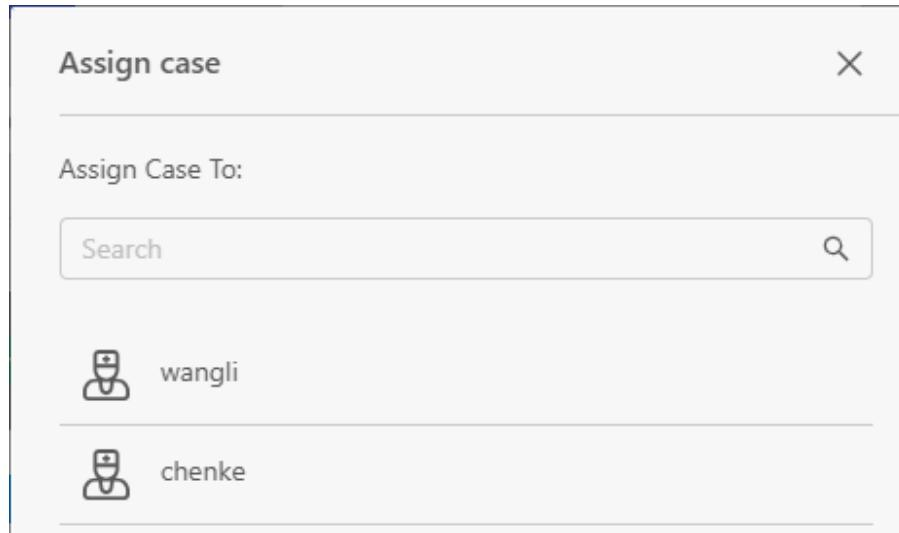

Figure 4-15 Assign Case Tab
- Assign: Assign the selected case to a specified user. This opens the assign case tab (Figure 4-15), where you can select a user to complete the assignment. The name of the assigned user will appear in the Provider column of that case.